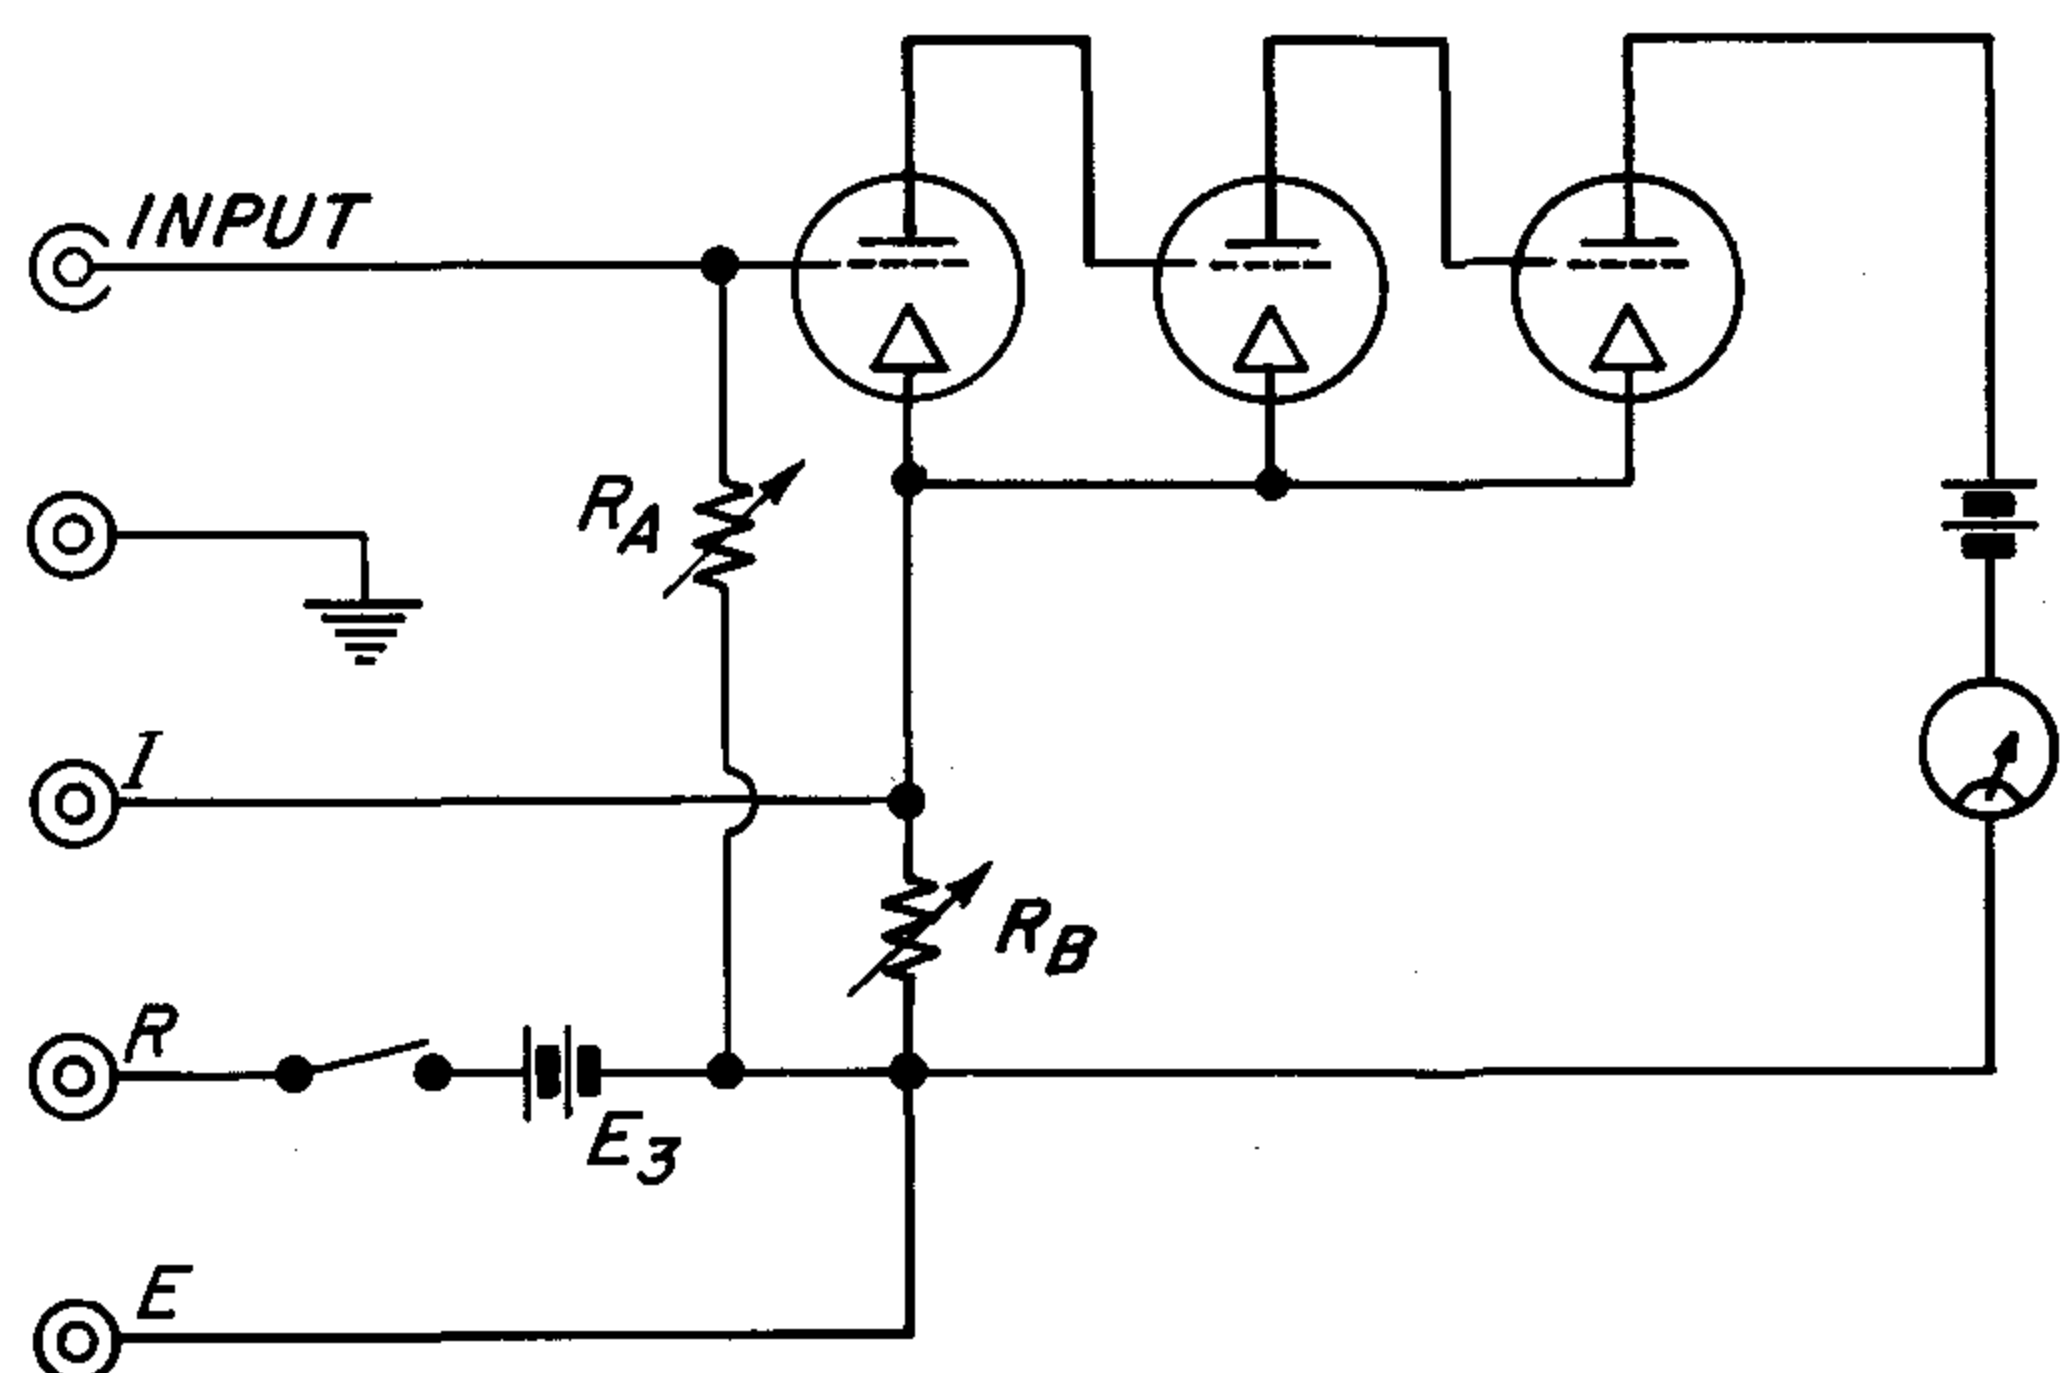

Figure 3. Guard-Point Arrangement.
2.2.2 A second method of measuring current results in an appreciably lower "ammeter resistance". Since the voltage at the input and the voltage across R_B are practically equal and of the same polarity, the voltage difference from the high INPUT terminal (grid of first tube) to the high side of R_B (I, Figure 3) is very small (about $150 \mu\text{v}$ at full scale). Any current source connected between these two points cannot develop appreciable voltage between the points, and the "ammeter resistance" is therefore very low. The unknown current, however, still flows through R_A , and therefore the instrument indicates current in the same manner as that described in paragraph 2.2.1. The lower "ammeter resistance" is obtained at some sacrifice in stability, however, if the source impedance is relatively low. (Refer to paragraph 4.3.)
2.3 RESISTANCE MEASUREMENTS. Resistance measurements are made by means of an auxiliary voltage, E_3 (9.1 volts if internal, any voltage up to at least 600 volts if external), connected in the series network of standard and unknown resistors (see Figure 3). The resultant voltage drop across the standard resistor is a measure of the unknown resistance. The meter is calibrated to indicate this resistance directly when E_3 is internal.
For measurement of three-terminal resistances or ungrounded resistances, a more flexible guard-ground system is desirable. To meet these situations, the Type 1230-A D-C Amplifier includes three guard terminals (I, R, and E), with provision for grounding any one of the three. Figure 3 shows the guard-point arrangement.